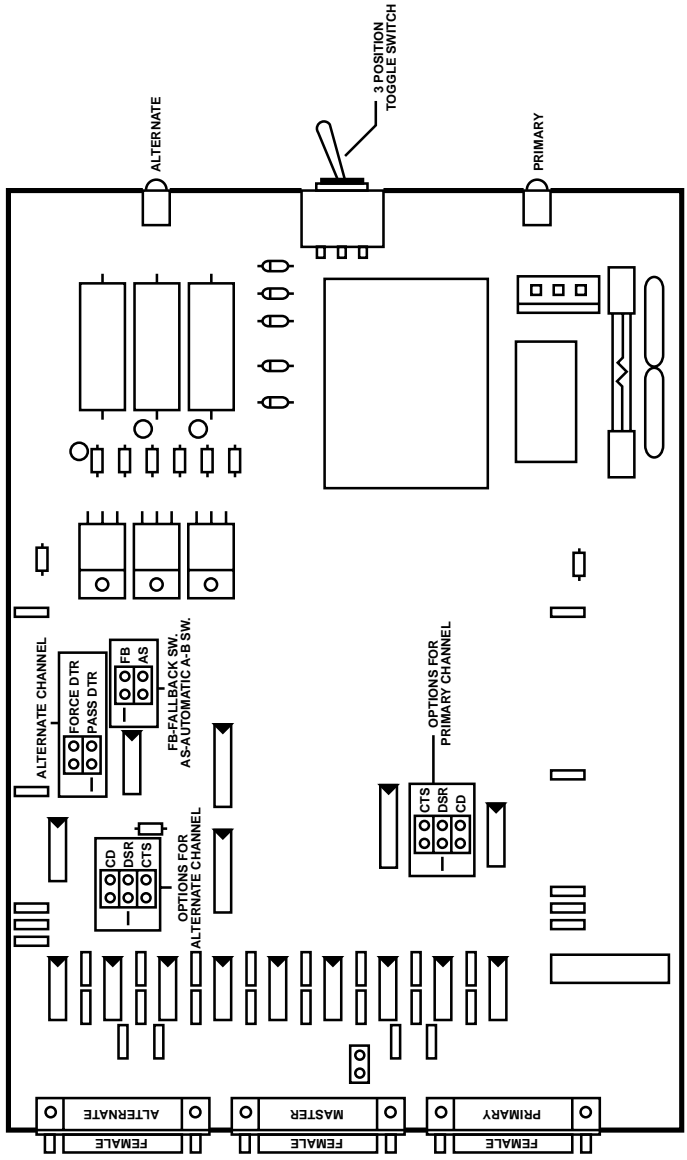

Figure 3-1. Layout of the Switch's printed circuit board.
Before you install the RS-232 Fallback Switch, you should set its internal jumpers if you need it to do anything different from its default functions. There are four of these jumpers, as described below (refer to **Figure 3-1** on page 13).
3. Referring to Figure 3-1 on the next page, move the jumper(s) to the desired position(s).